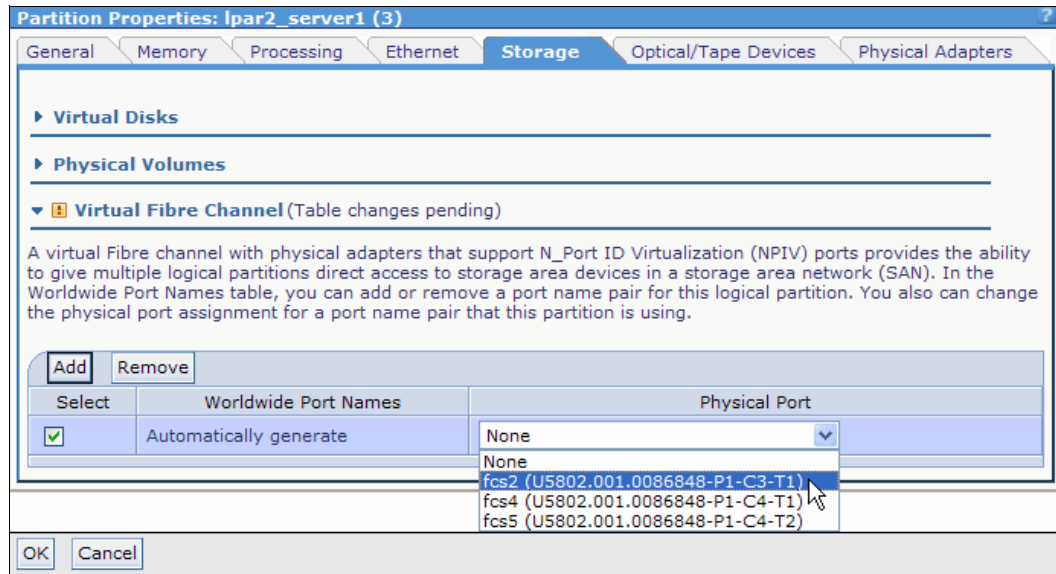

Figure 4-100 Adding a new virtual Fibre Channel adapter
4. Ensure that the check box for the new virtual Fibre Channel is selected. Using the **Physical Port** pull-down menu, choose the physical port that you want to associate with the new virtual Fibre Channel adapter, as shown in Figure 4-100. Click **OK** to make the configuration effective.